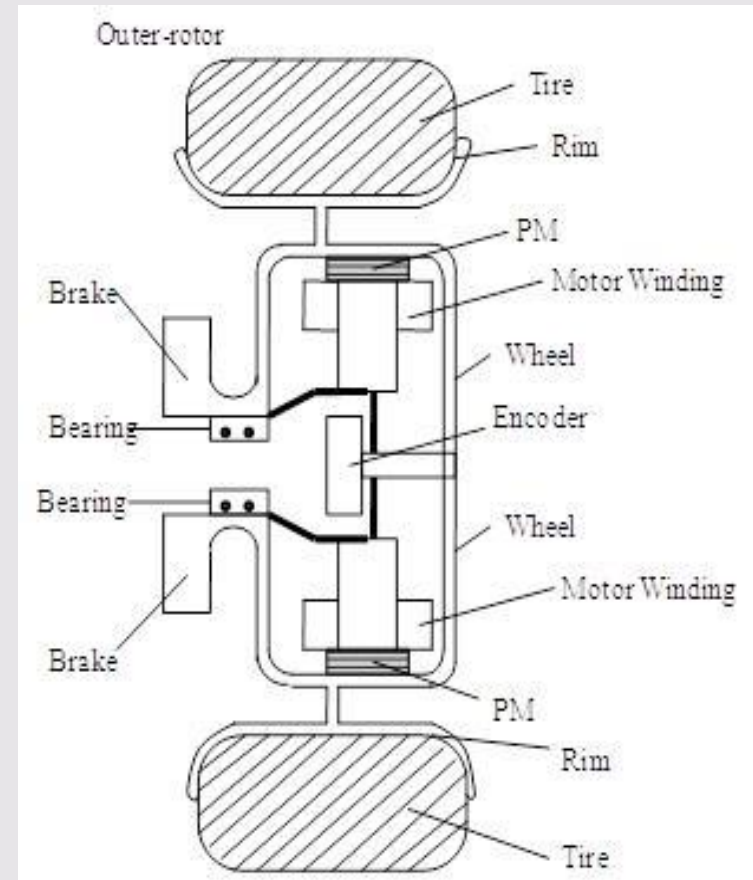

Figure 6b: Outer rotor *In Wheel* drive
- In case outer rotor motor is used (**Figure 6b**), then the transmission can be totally removed and the outer rotor acts as the wheel rim and the motor speed is equivalent to the wheel speed and no gears are required.